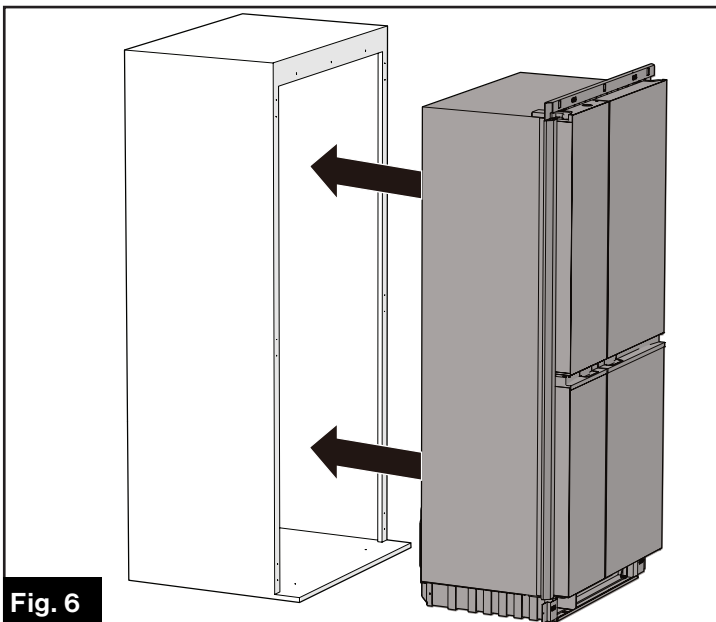
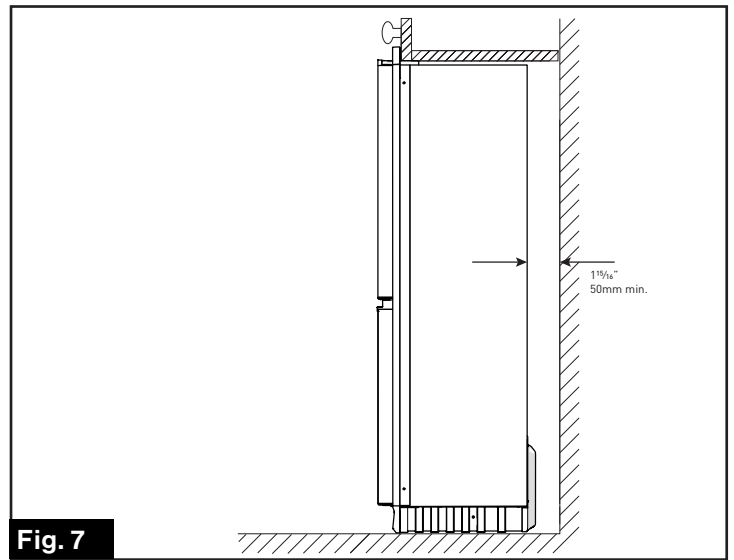

Fig. 6
Fig. 7
5. Put the refrigerator completely into the enclosure. (Fig. 6) Make sure to leave $1\frac{5}{16}$ " (50mm) minimum space from the back of the refrigerator to the cabinet for better air circulation. (Fig. 7)